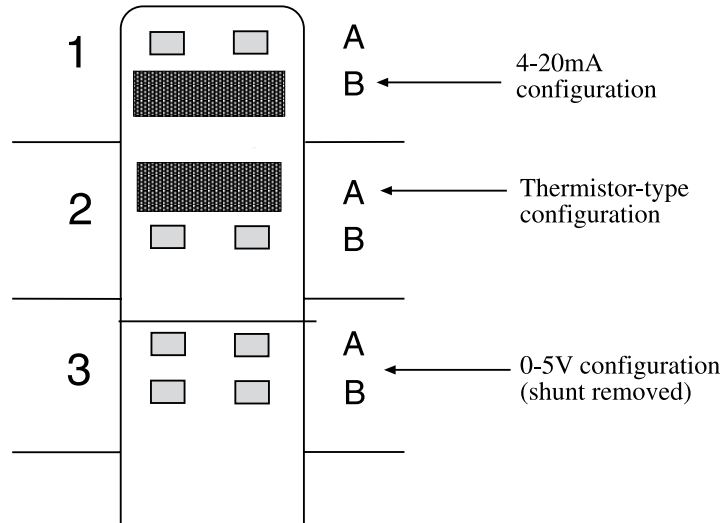

Figure 4: shunt configurations
3. To configure the input as 0–5V, remove the shunt. See Figure 4: